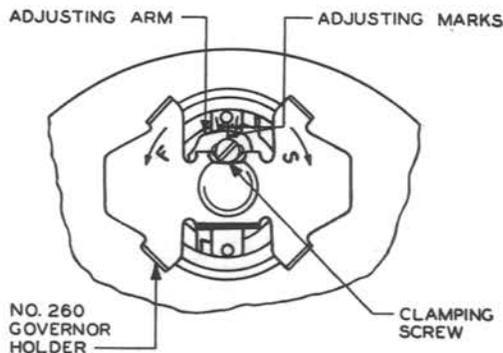

Fig. 24 — Position of the No. 260 Governor Holder on the 2-, 4-, and 5-Type Dials
- (2) *To adjust the speed of a dial*, place the No. 260 dial governor holder on the governor as shown in Fig. 24.
- (3) Loosen the clamping screw with the KS-6854 screwdriver only enough to permit movement of the adjusting arm with slight friction.